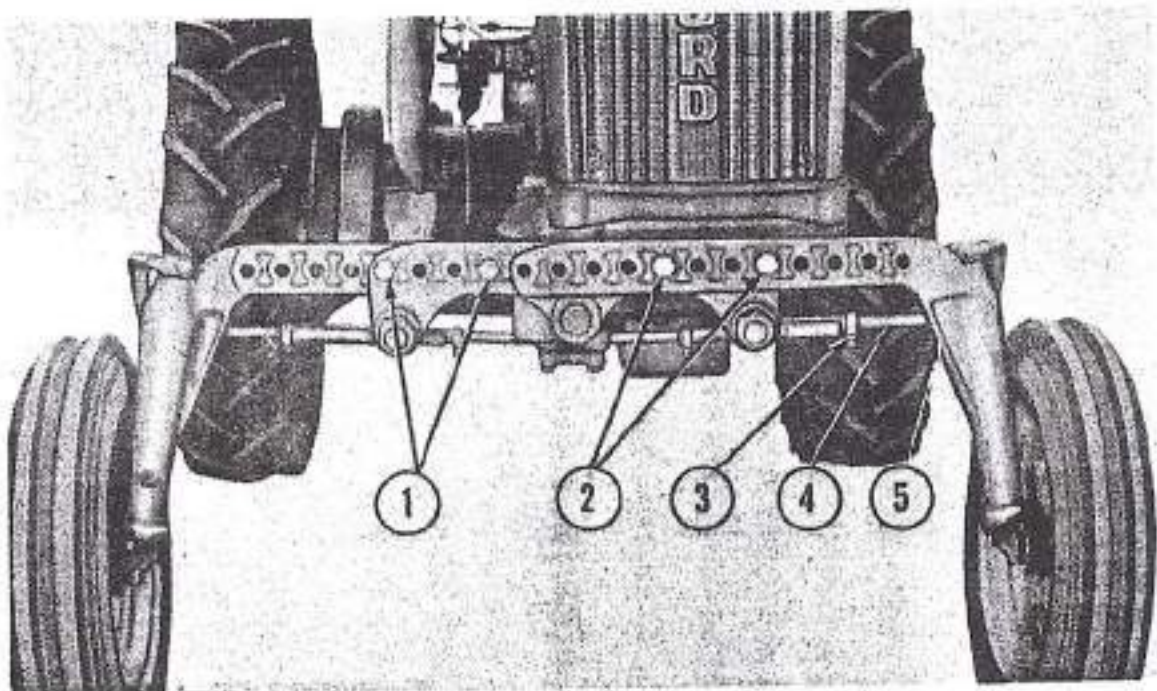

Figure 5
Front Wheels: The front wheel tread adjustment for the offset tractor can be varied from 40" to 78" in approximately 4" spacings. To change the tread width, place a jack under the forward end of the transmission housing and lift the front wheels off the ground. Adjust the left axle section first, by removing the two hex head bolts (2), Figure 5, that secure the axle half to the center axle. Then, remove the connecting rod square head set screw (3). Position the axle half in or out to obtain the desired spacing. Replace the hex head axle bolts (2), making sure there are at least two holes between each bolt. Do not install or tighten the nuts at this time. Position the right axle half to the desired spacing and install the two bolts (1), shipped in the tool box.
Toe-in adjustment is accomplished by loosening the spindle connecting rod clamp bolts (5), Figure 5, and the set screw (3). Lengthen or shorten the connecting rods (4), by turning them. Correct toe-in is obtained when the tread width at the front of the front tires is $1/4$ " less than the tread width at the rear of the front tires when measured at hub height. When adjusting toe-in, always make certain both rods are the same length by measuring and comparing the rod lengths. Tighten the clamp bolts (5), and set screws (3), securely.